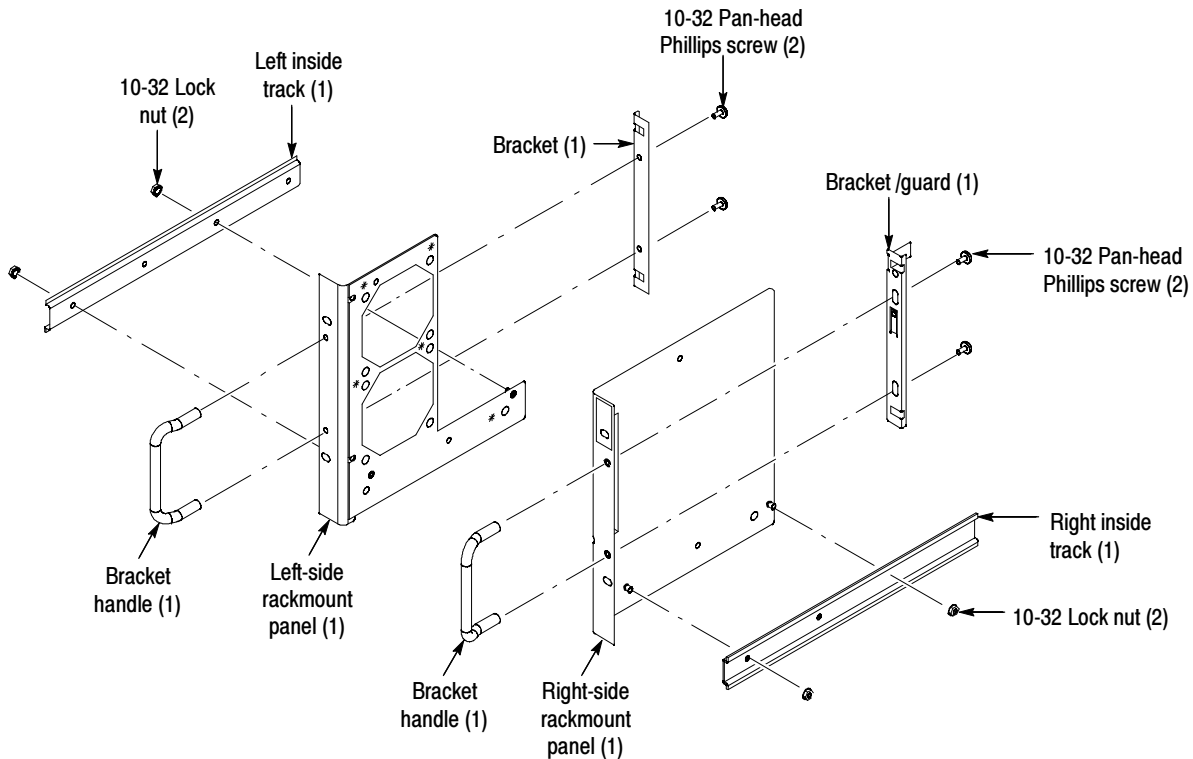

Figure 6: Rackmount panel preassembly
NOTE. Assemble all subparts on the right and left-side panels before installing the rackmount panels on the instrument. Refer to Figure 6.
2. Install the bracket handle and bracket/guard to the right-side rackmount panel. Secure by using the two 10-32 pan-head, Phillips screws, applying 15 inch-lbs of torque. Refer to Figure 6 on page 13.